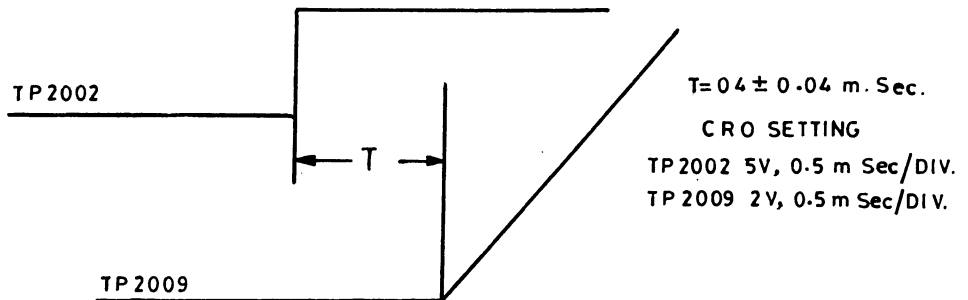

Fig. 11.11
4. Playback the just recorded portion and adjust the tracking control R 2035 on the same section so that both the waveforms become as shown in fig. 11.11.